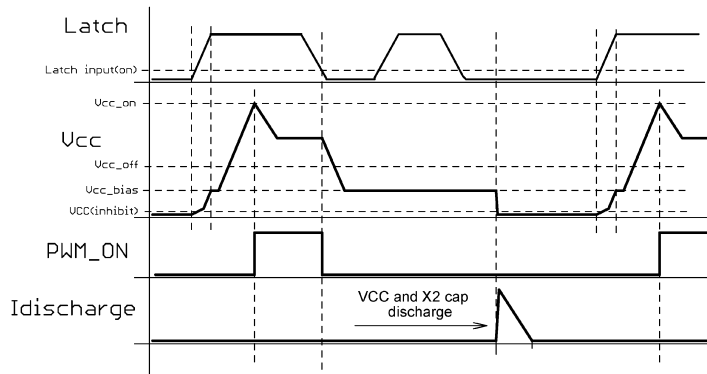
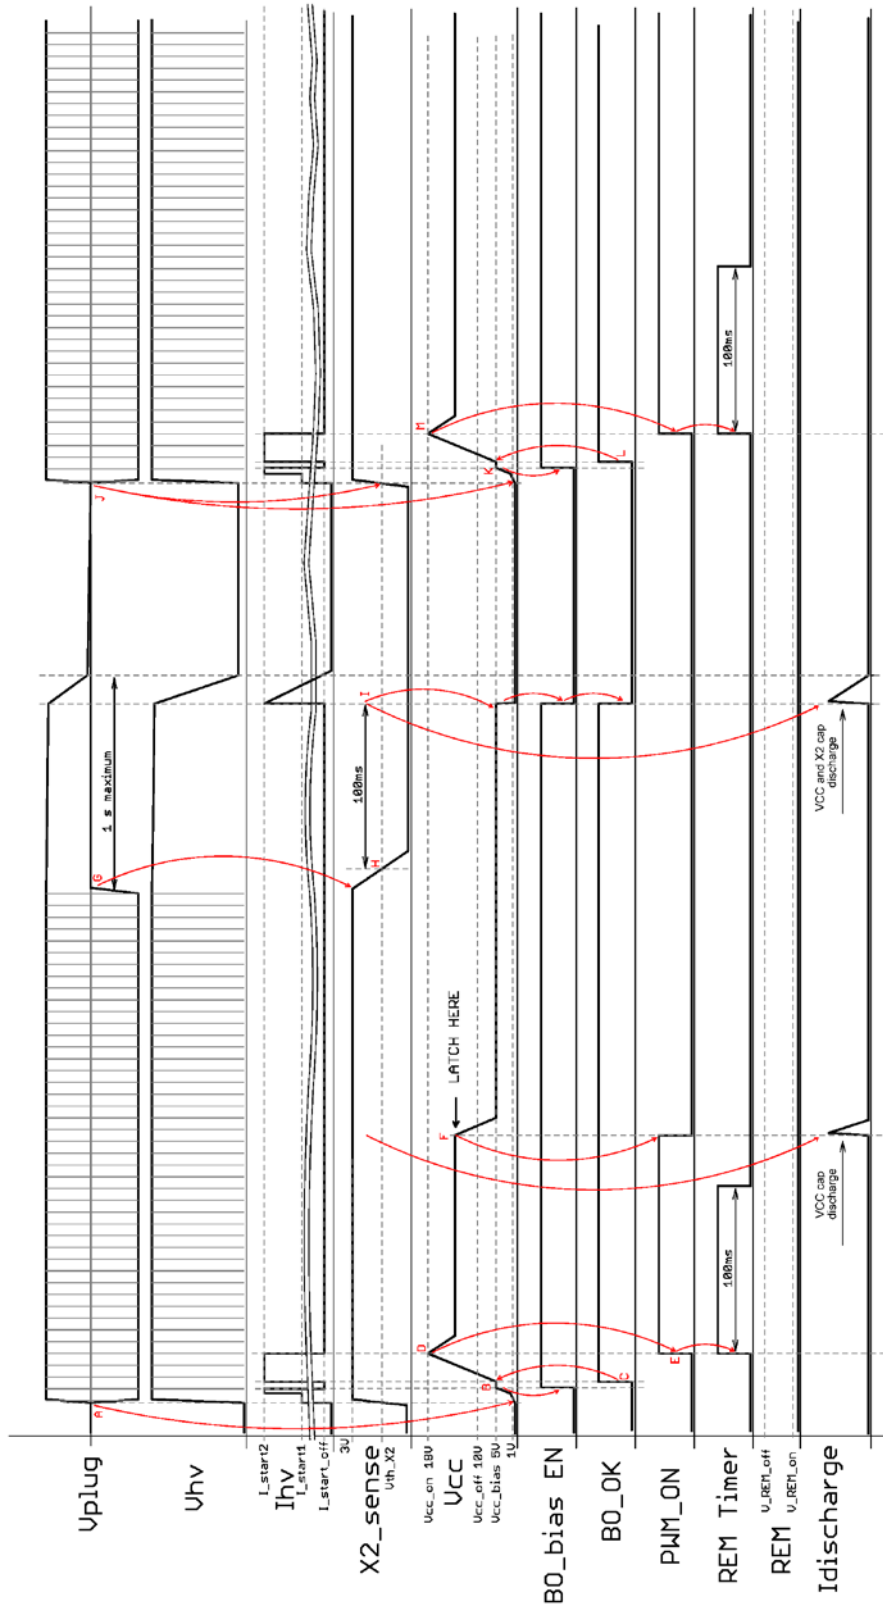

Figure 44. Internal Latch Signal Communication
Figure 50. IC Operation Sequencing – Case 5 (Active ON)
controller latches-off and inter-bonding Latch information is provided, the SCYW99143 goes into latch-off mode refer to Figure 50. Latch-off mode continues until the mains is unplugged – the X2 discharge is confirmed and activated or Vcc is forced below 4 V externally. The inter-bonding Latch signal does not have to be present for the time the controller is latched – the SCYW99143 internal logic triggers on rise edge of this signal only. More details are showed on Figure 44. Latch comparator is enabled only during regular operation – i.e. when Vcc level is between V_{cc_on} and V_{cc_off} levels.
5. Application start, latch-off after 120 ms, AC line restart – Figure 50: